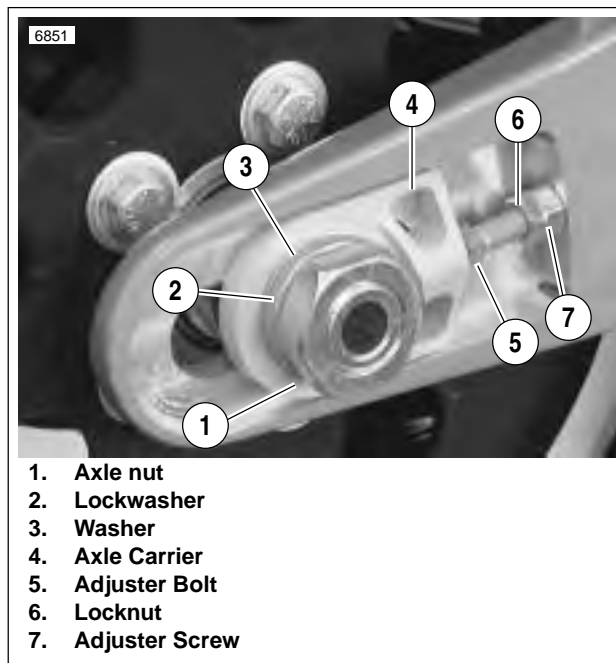

Figure 6-26. Secondary Drive Belt Adjustment
6. See Figure 6-26. Loosen rear axle nut (2) (metric). Reduce tension on secondary drive belt by turning axle adjuster nuts (1) on each side of swingarm an equal number of turns counterclockwise. Move rear wheel as far forward as possible.